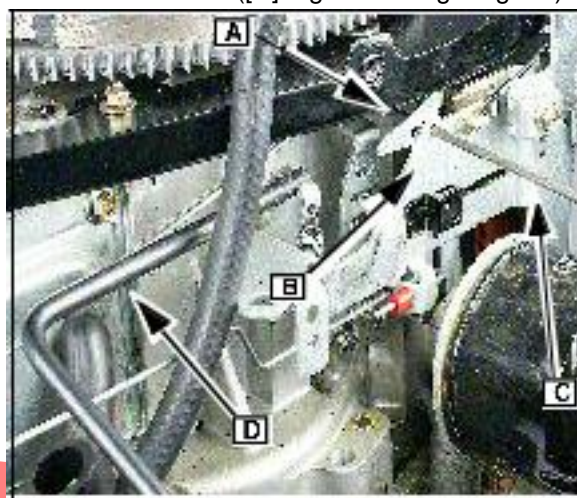
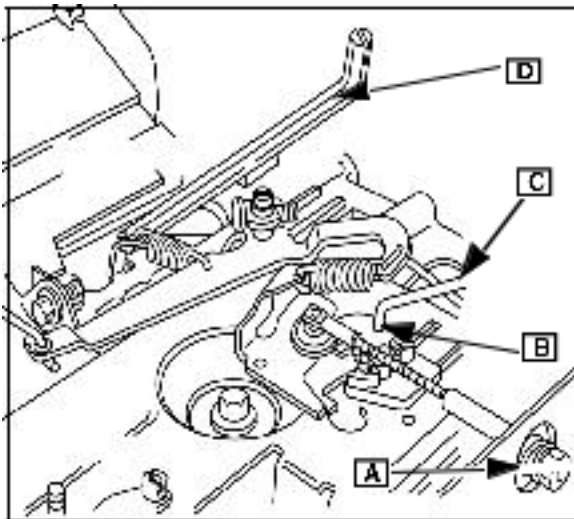

Fig. 33
Fig. 35
Align holes in the governor control lever gear (A) and governor control plate ([B] Fig. 33 through Fig. 35) Insert 0.125 in. (3.2 mm) diameter rod (C).
5. Remove rod ([C] Fig. 33 through Fig. 35).
Insert 0.125 in. (3.2 mm) diameter rod ([C] Fig. 35).
Using tang bender tool ([D] Fig. 35), bend governed idle spring tab to obtain **1400 RPM**.